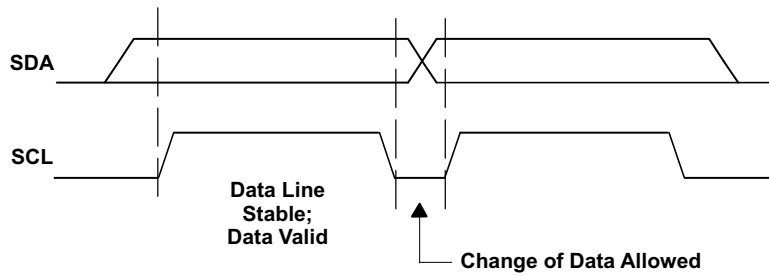
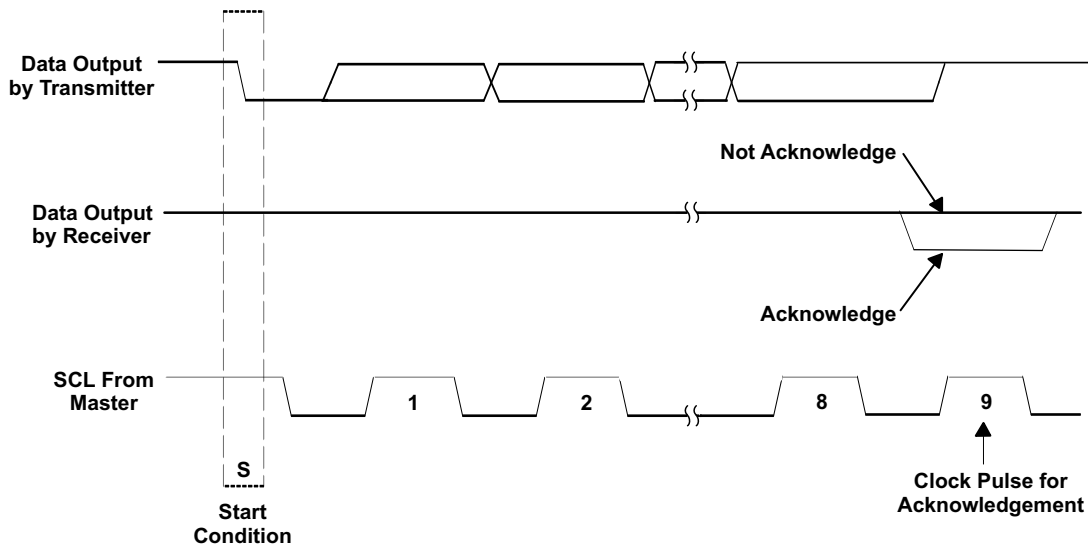

Figure 59. I²C Bit Transfer
Figure 60. I²C Acknowledge
- The master then generates the SCL pulses and transmits the 7-bit address and the read/write direction bit R/W on the SDA line. During all transmissions, the master ensures that data is valid. A valid data condition requires the SDA line to be stable during the entire high period of the clock pulse (see Figure 59). All devices recognize the address sent by the master and compare it to their internal fixed addresses. Only the slave device with a matching address generates an acknowledge (see Figure 60) by pulling the SDA line low during the entire high period of the ninth SCL cycle. On detecting this acknowledge, the master knows that a communication link with a slave has been established.